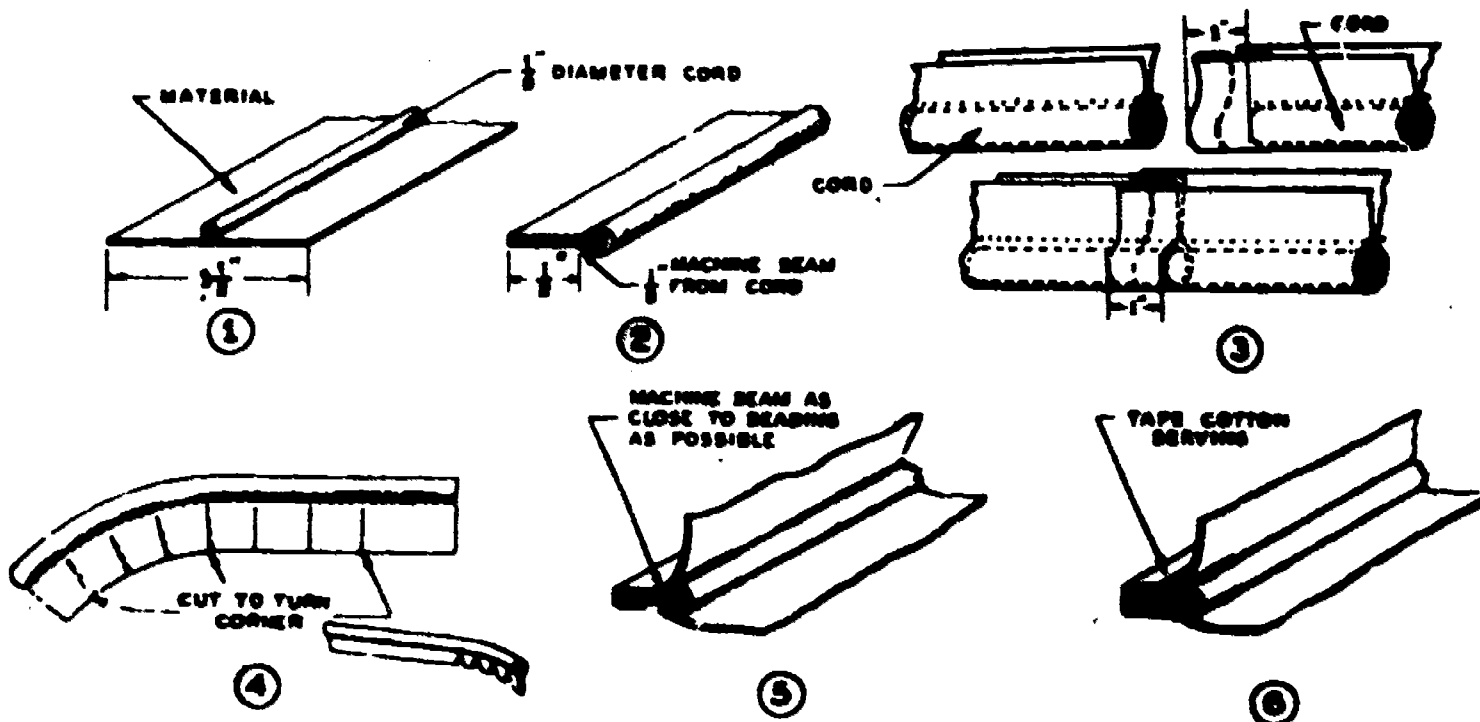

Figure 7. Beading Installation.
5. Both beading tapes should be turned under and finished as in step 3 of figure 7.